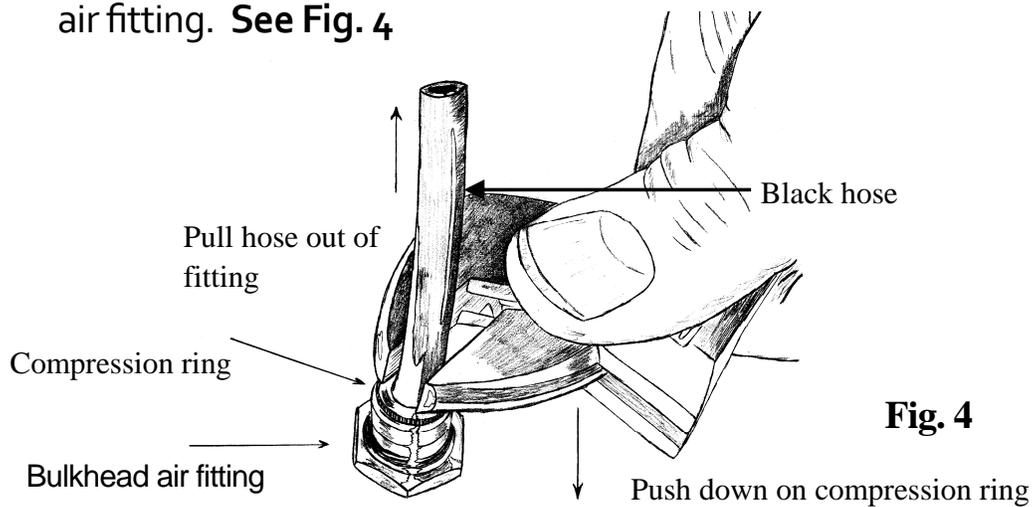

Fig. 4
4. Black hose can now be removed by compressing lock ring on air fitting. **See Fig. 4**